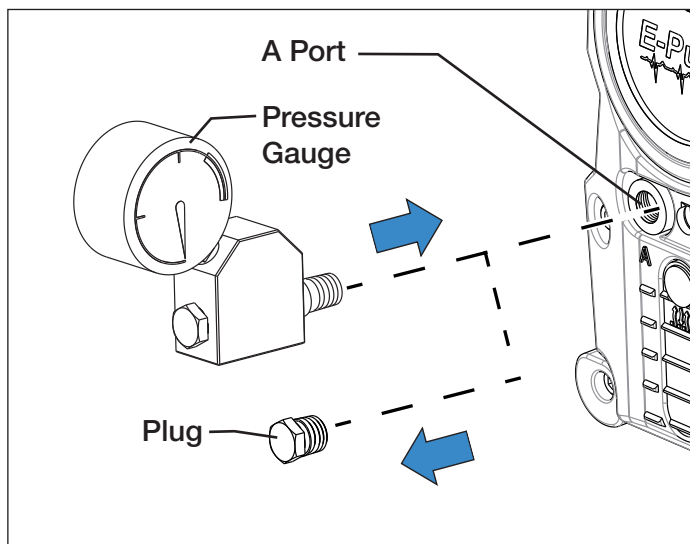

Figure 10, Pressure Gauge Installation
4. Install a 0-15,000 psi [0-1035 bar] hydraulic pressure gauge in the pump “A” port. See Figure 10.